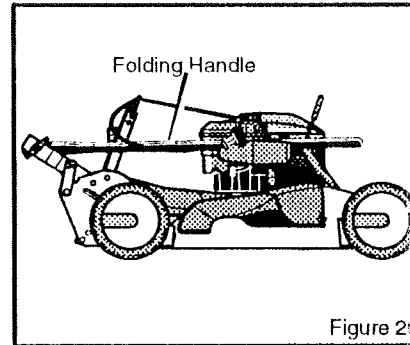

Figure 2
1. Loosen the fasteners that hold the upper part of the handle to the handle support. As you fold the handle, make sure the cables are not around the loose fasteners and do not become damaged (Figure 2).